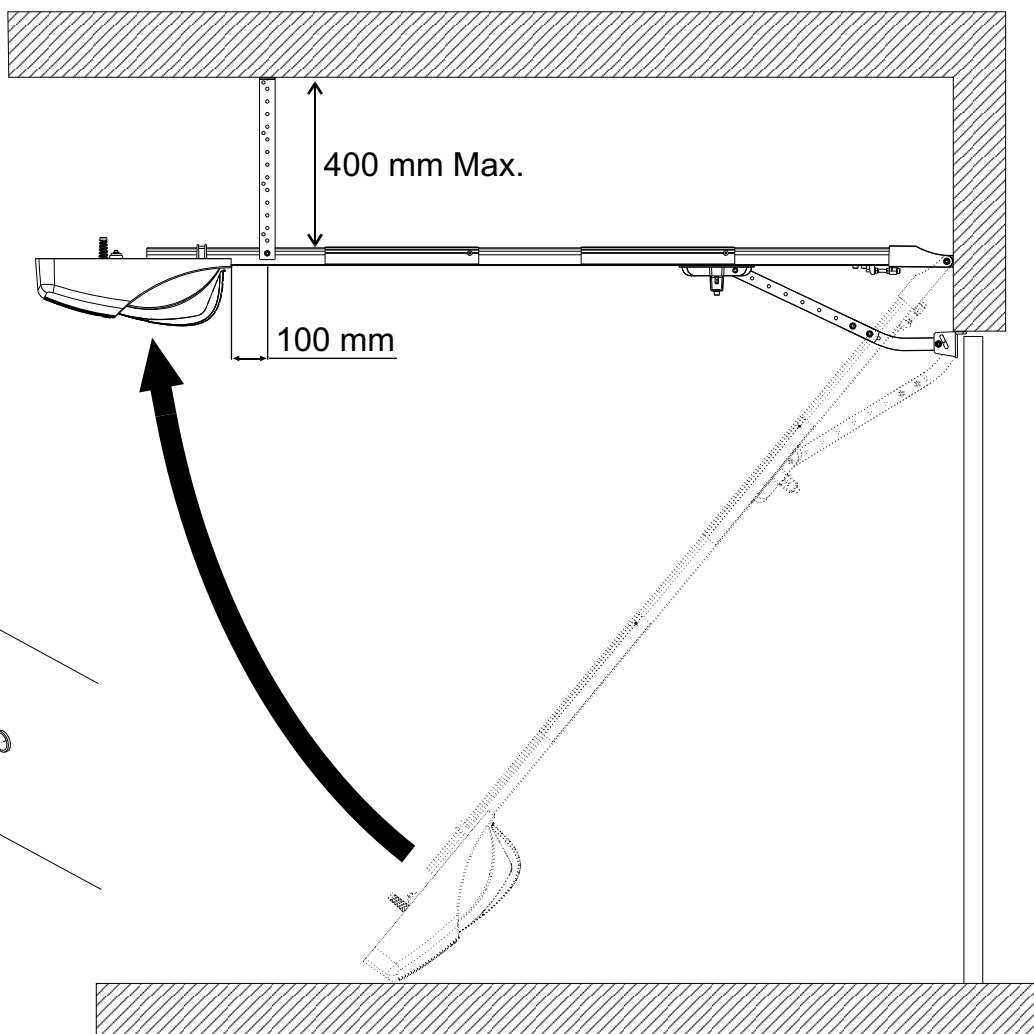

Fig. 9
- Lift Corona up and fix it to the ceiling with the provided brackets keeping a maximum distance of 400 mm from the ceiling and make sure Corona is perfectly horizontally fixed (Fig. 9);